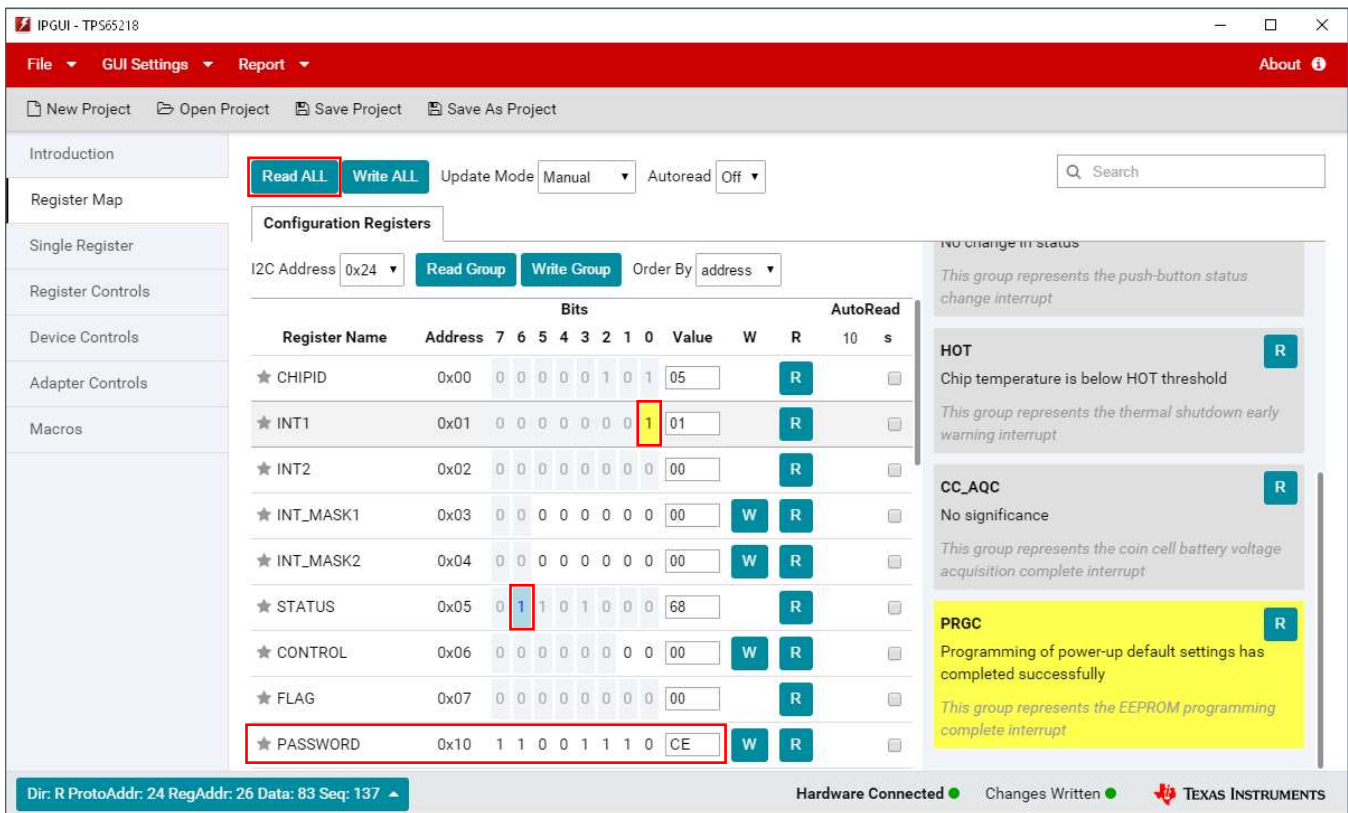

Figure 23. Interrupt for Successful Programming in INT1
- After the sequence is written to re-program the TPS65218D0 device EEPROM, there are a few indicators that the EEPROM has been re-programmed correctly. Figure 23 shows that the **PRGC** bit of the **INT1** interrupt register (0x01) is set to 1b, the **EE** bit of the **STATUS** register (0x05) is set to 1b, and the **PASSWORD** register (0x10) has retained the last byte (0xCE) of the special programming sequence.